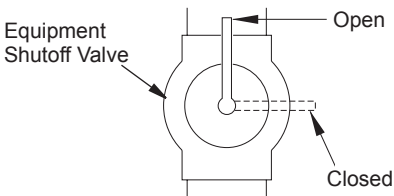

Figure 15 - Equipment Shutoff Valve
1. Close equipment shutoff valve (see Figure 15).
1. Open equipment shutoff valve (see Figure 15).